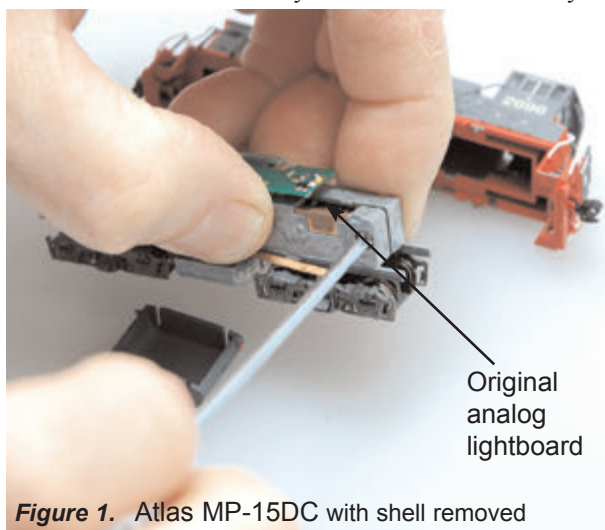

Figure 1. Atlas MP-15DC with shell removed
1. Carefully remove the locomotive's shell from the frame (*Figure 1*) Notice the orientation of the shell so that you can reinstall cor-rectly.
(*Figure 1*)
000/x00 for **OFF**. To turn **ON** transponding, program CV61 to a value of 002/x02. This allows you to use Digitrax transponding to keep track of your rolling stock. When transponding is enabled, the front light of the locomotive will flicker slightly to indicate transponding signal is being communicated. For optimal transponding operation, we recommend that you hook up the forward and rear lights as shown in the wiring diagram (*Figure 1*).